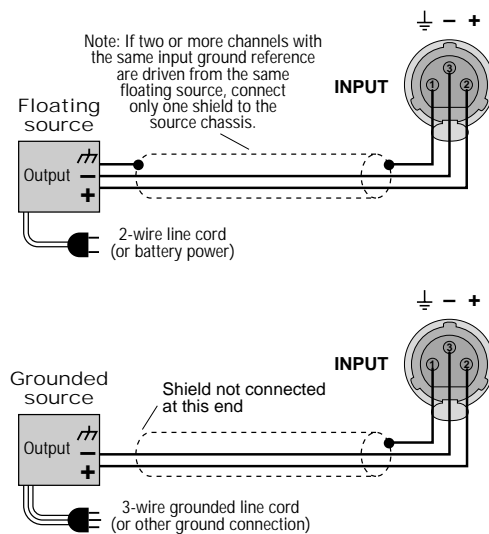
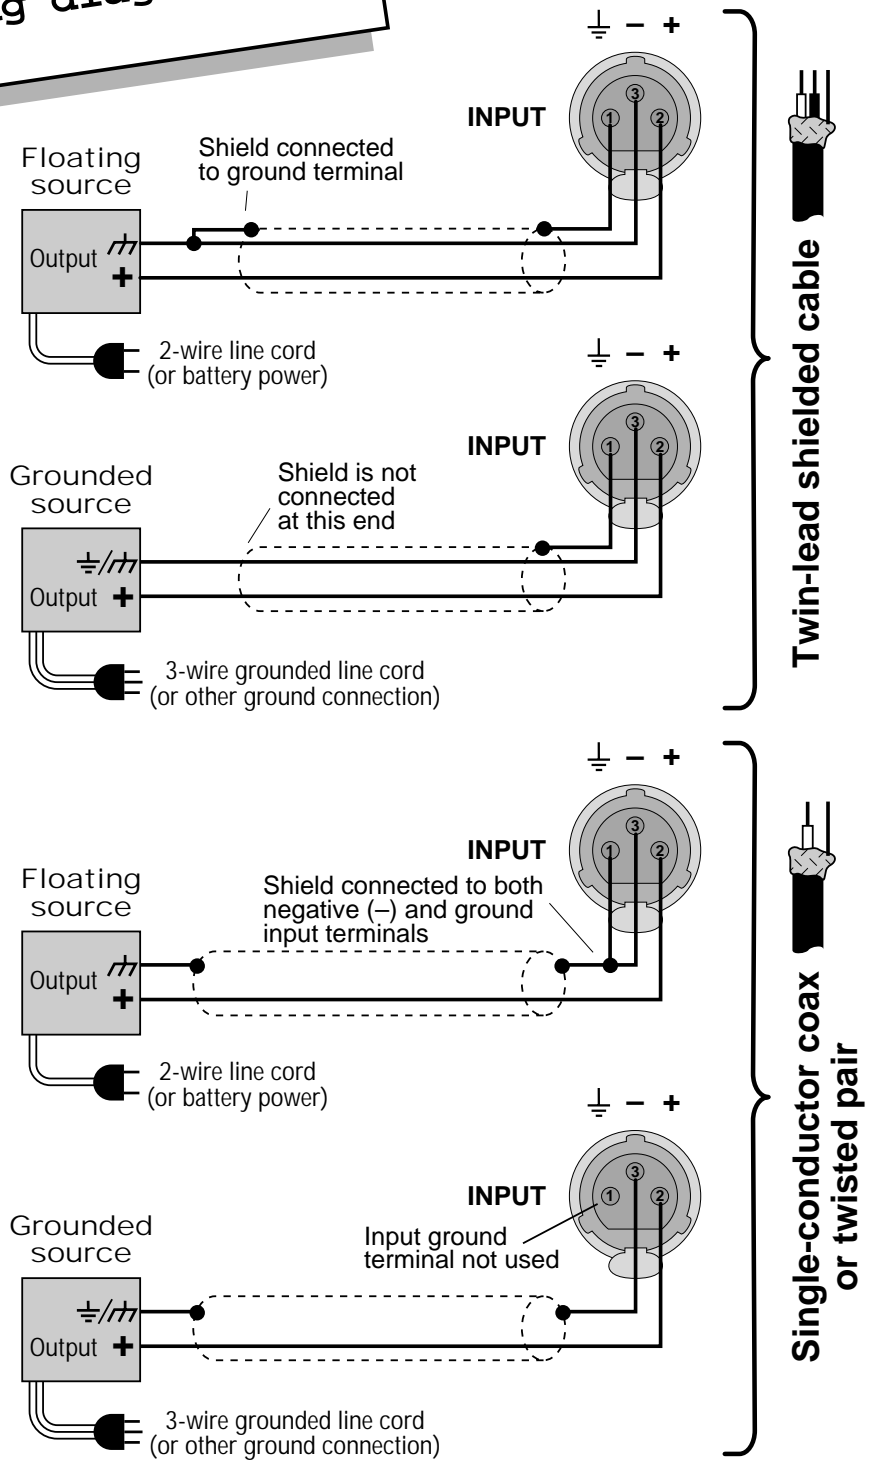

Fig. 4.2 Balanced Input Wiring
Fig. 4.3 Unbalanced Input Wiring
If you have noticeable hum or buzz in your system, you may want to check your cable connections to see if the unwanted noise is being introduced via a ground loop. To determine the proper wiring, first check whether the output from your source is unbalanced or balanced (if you don't know, refer to the unit's back panel or instruction manual). If the source is balanced, refer to Figure 4.2; if it is unbalanced refer to Figure 4.3. Next,
2. Unless you are interfacing to a microphone, the shield of the cable should only be connected at one end. (See Fig. 4.2.)
Check Figure 4.2 (below) to see if your cable has been wired with the proper shield and ground connection. If the cabling is incorrect, you may be able to avoid the ground loop (and associated hum) by plugging all of your equipment into the same AC circuit (on the same breaker). If this is impractical, you will need to fix the cable to match the appropriate illustration. Or you may want to simply replace the offending cable with a commercially manufactured cable of the appropriate type.